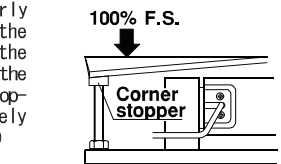

Figure 6
- (4) Although the overload stopper is properly adjusted, if an overload is applied to the corners of the platform, it may exceed the allowable limit due to the flexibility of the base board. Therefore, attach the corner stopper against the platform at approximately 100% of the rated capacity (See Figure 6.)